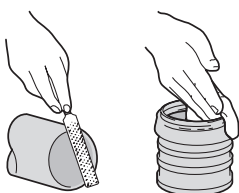

Fig.4a Filing pipe/lubricating seal
**Step 1** – File square cut pipe to provide 45° chamfer. (Do not chamfer to a knife edge.) Lubricate rubber seal with 9136 Silicone Lubricant (Fig.4a)